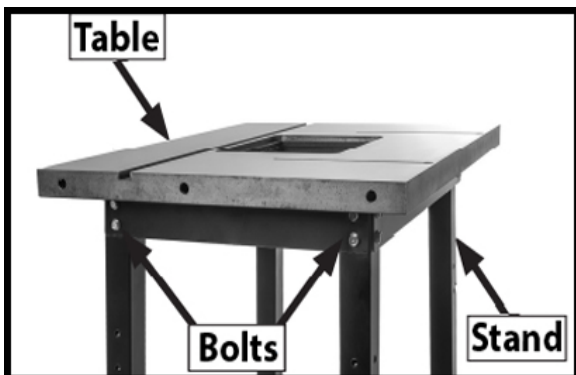

Figure 16
5. Set the table on the stand as in (Fig.16) and attach using the 5/16-18 x 1/2" bolts.